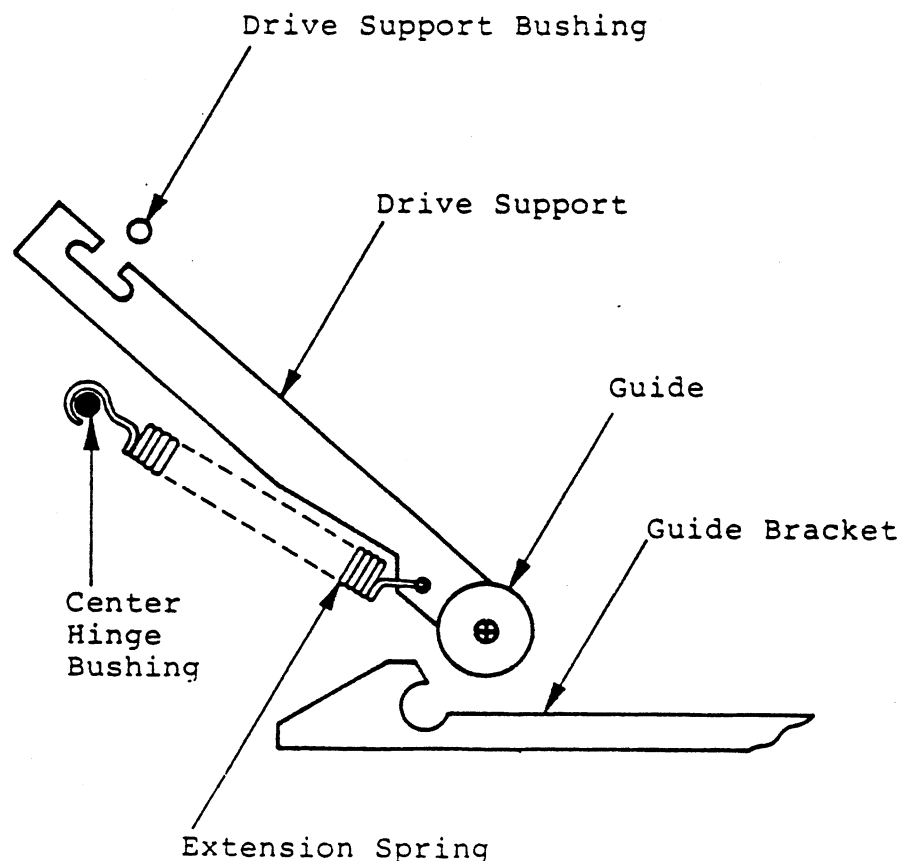

Figure 5-5. Drive Support Assembly
- (1) Pull the drive support and extension spring towards the front of the drive and disengage the drive support from the drive support bushing (Figure 5-5).